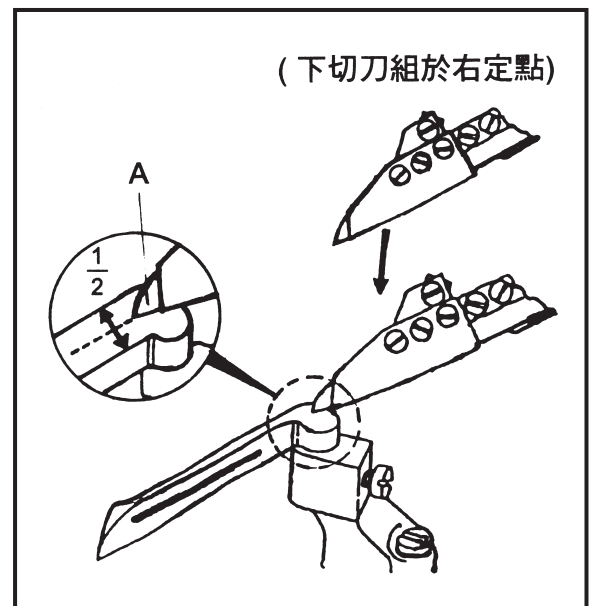

Fig.42
When the trimmer moves out from right dead point to the right hand side of looper, (1st action) the tip of Moving Knife (A) aim the center of looper ridge. (Fig.42)